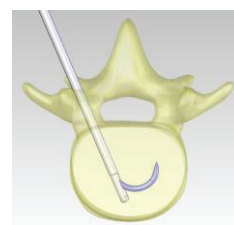

Figure 2B: Lateral Access with Blazer-C Wire Deployment
2. With Flexible Obturator in place, rotate Drive Knob slowly to incrementally deploy Blazer – C Wire into cancellous bone. After each full turn of Drive Knob, verify orientation and path of Blazer-C Wire under image guidance (See Fig. 2B). Continue to deploy Blazer-C Wire, until desired amount of wire has been deployed and channels have been created.